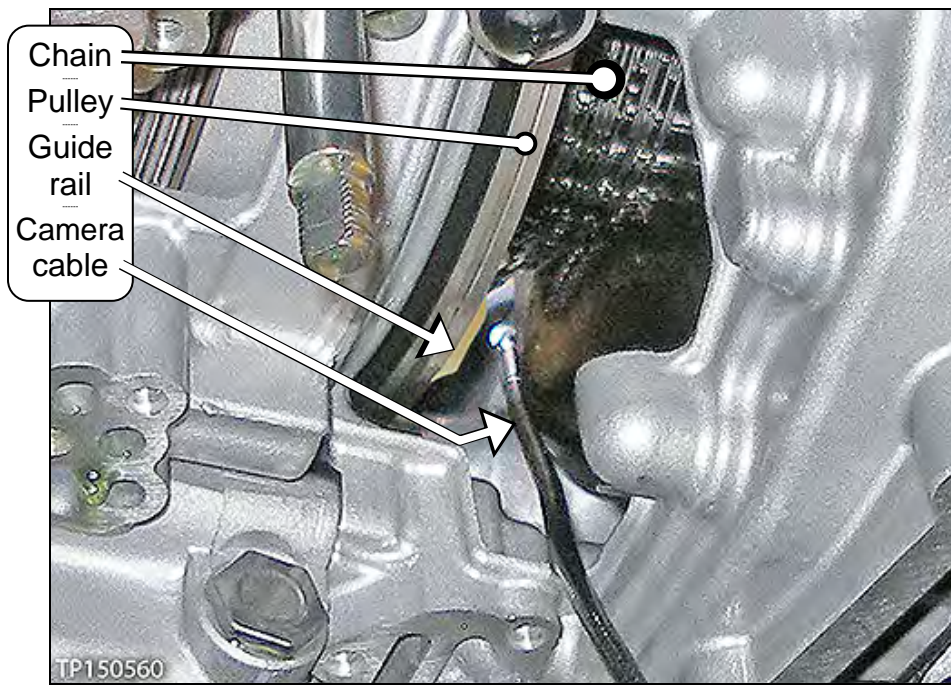

Figure 6
- Figure 6 shows where to insert the camera lens on the driver side of the chain.